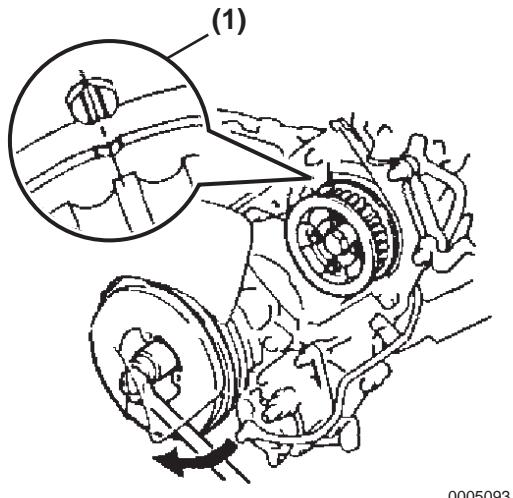

Figure 5-65
9. Set the No. 1 cylinder to BDC by turning the crankshaft pulley to align to the timing mark of No. 2 camshaft timing pulley, using the bottom dead center (BDC) mark of the timing gear cover (**Figure 5-65, (1)**).